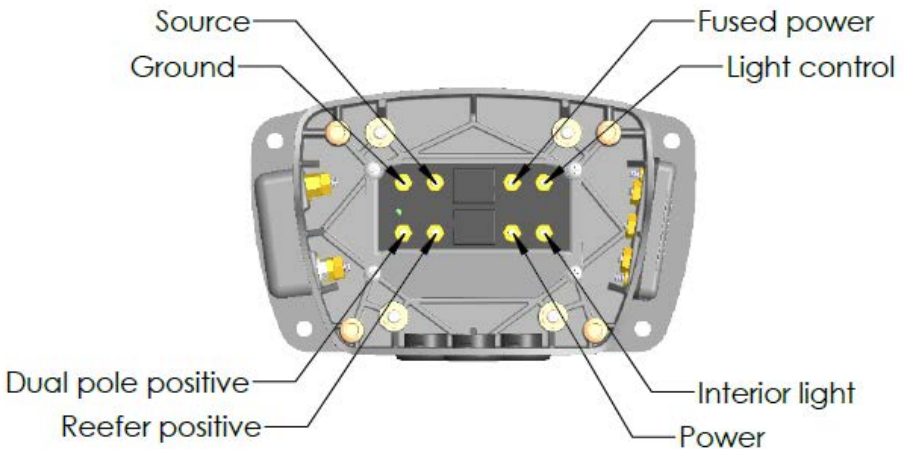

Figure 1
Step 2: Terminate the positive input with a #10 ring terminal and connect to the Power terminal inside the nosebox (see Figure 1).
Step 3: Terminate the negative input with a #10 ring terminal and connect to the Ground pin inside the nosebox (see Figure 1).